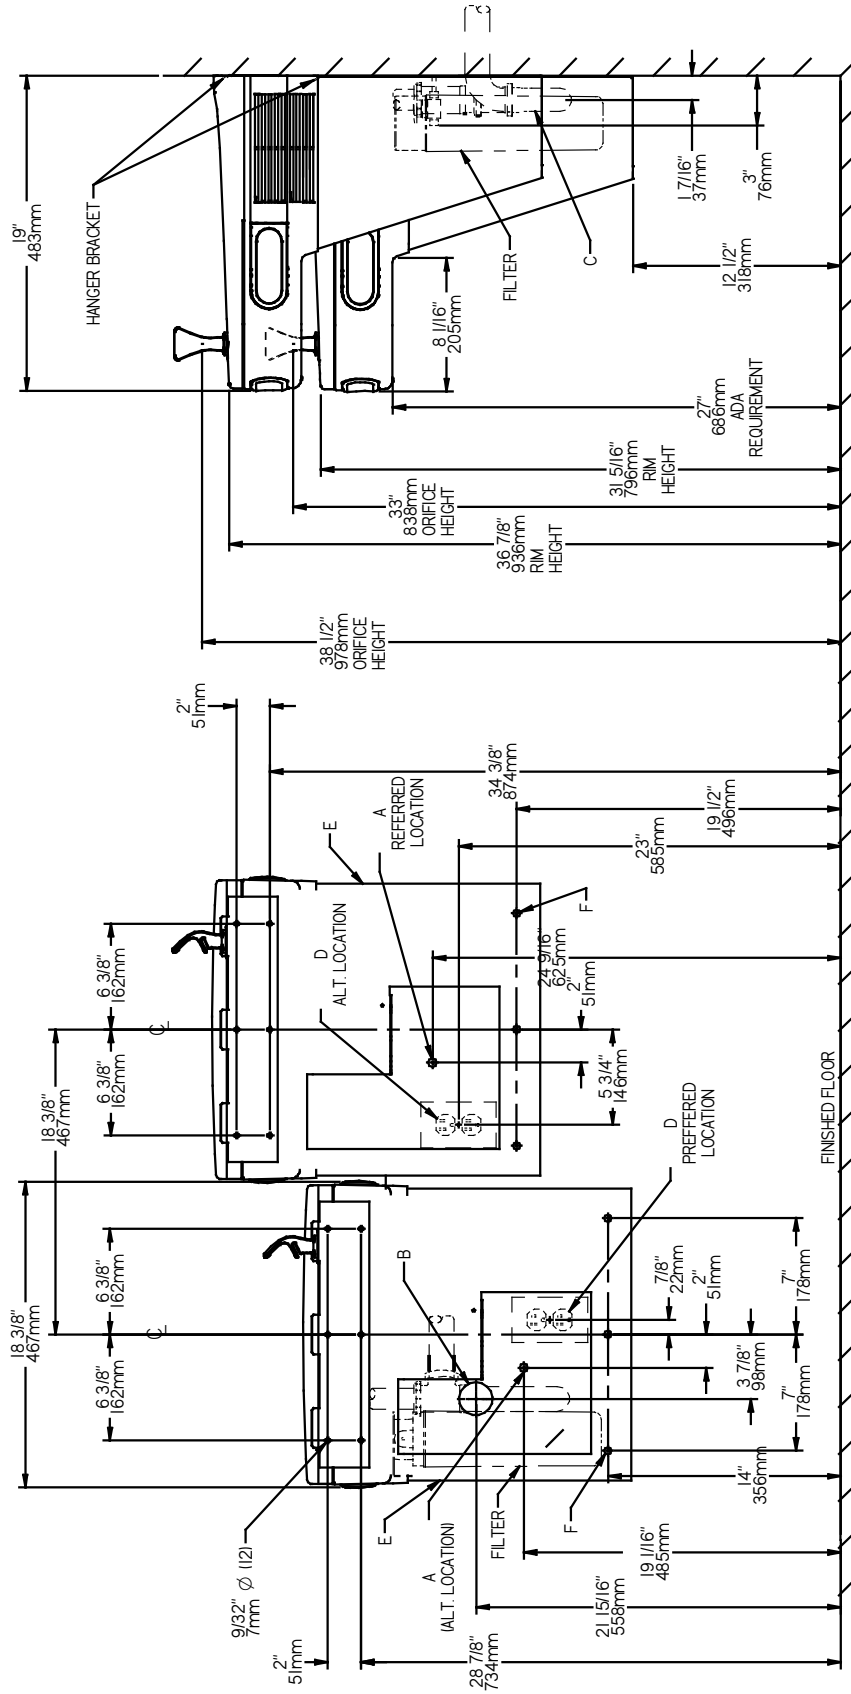

**FIG. 2**
- 1) Remove hanger brackets fastened to back of cooler by removing one (1) screw.
- 2) Mount the hanger bracket as shown in Figure 2 or 3.
**NOTE:** Hanger Brackets **MUST** be supported securely. Add fixture support carrier if wall will not provide adequate support. Anchor hangers securely to wall using all six (6) 1/4" dia. mounting holes.
- 3) Hang the cooler on the hanger bracket. Be certain the hanger bracket is engaged properly in the slots on the cooler back as shown in Figure 2 or 3.
- 4) Remove the four (4) screws holding the lower front panel at the bottom of cooler. Remove the front panel by pulling straight down and set aside.